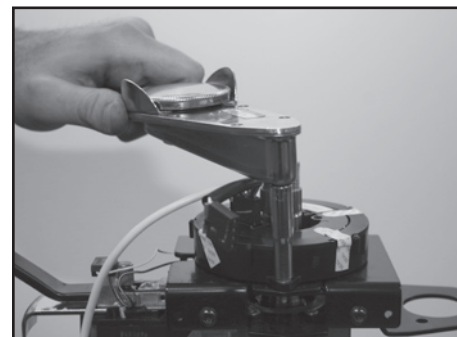

Figure 3
5. Using a 1/4" socket and torque wrench torque screws to 15-20 in. lbs. **Figure 3**